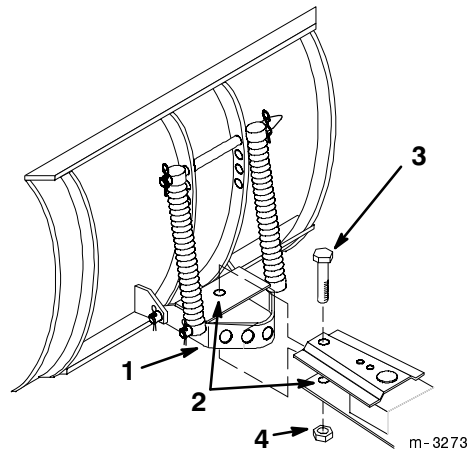

Figure 4
6. Apply general purpose grease to the pivot area of the frame and channel (Fig. 4).
7. Slide the channel between the frame mount and secure it with a 3/4-16 x 3-3/4 in. (95 mm) bolt and 3/4 in. locknut (Fig. 4).